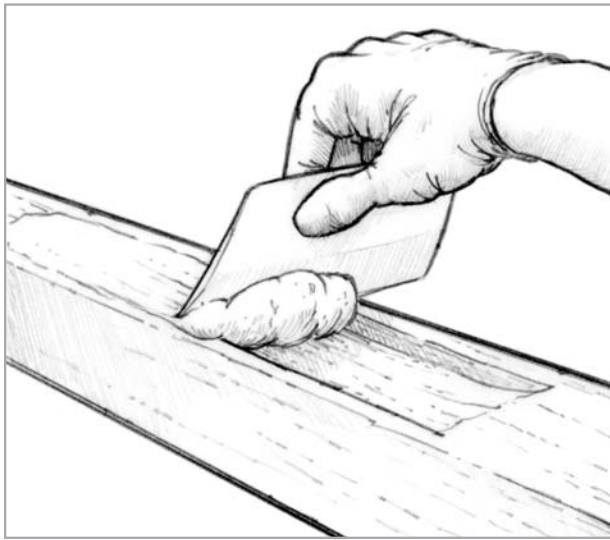

Figure 3-2 Trowel thickened epoxy into smaller voids.
3. Fill the cavity with epoxy thickened with a high-density (406, 404 or 403) filler to a peanut butter consistency. Trowel the mixture into the void with a plastic spreader or mixing stick (*Figure 3-2*). Smooth the mixture flush with the surface and remove any excess before the mixture begins to cure.